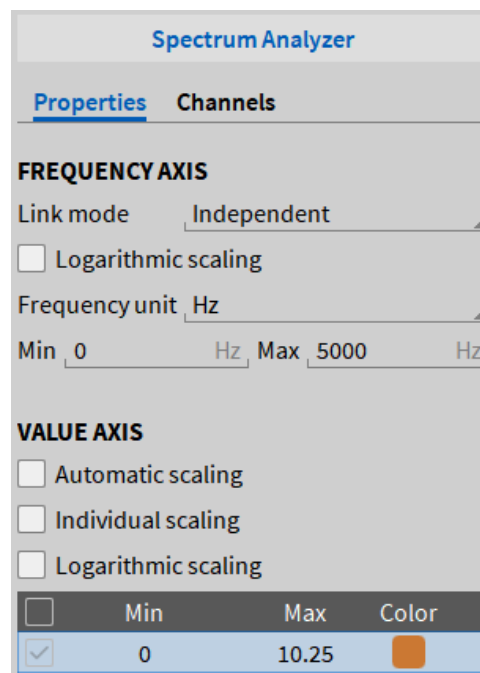

Fig. 8.39: Instrument Properties of the Spectrum Analyzer if Frequency Domain channels are assigned
- If frequency domain channels are assigned to the Spectrum Analyzer, the Instrument Properties are reduced to the Frequency axis and Value Axis settings (see Fig. 8.39). For details, refer to Additional instrument properties.